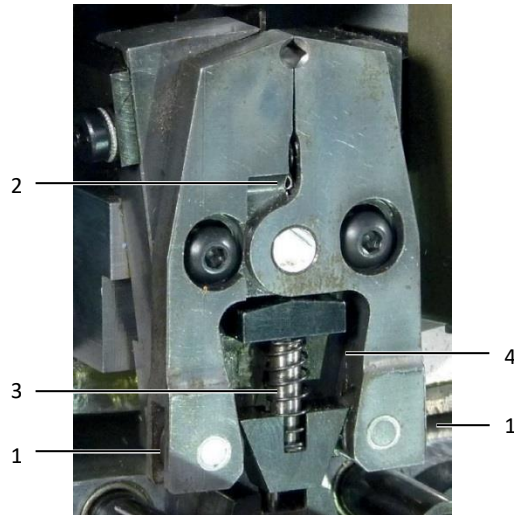

Fig. 26: Crimping tool
- Check whether the rollers (fig. 26, item 1) on the crimping tool are smooth-running.
- Check whether the rollers (fig. 26, item 2) on the sleeve holdingtongs are smooth-running.
- Oil the guide pin (fig. 26, item 3) of the sleeve holding unit.
- Oil the side running surfaces (fig. 26, item 4) of the sleeve holding unit.